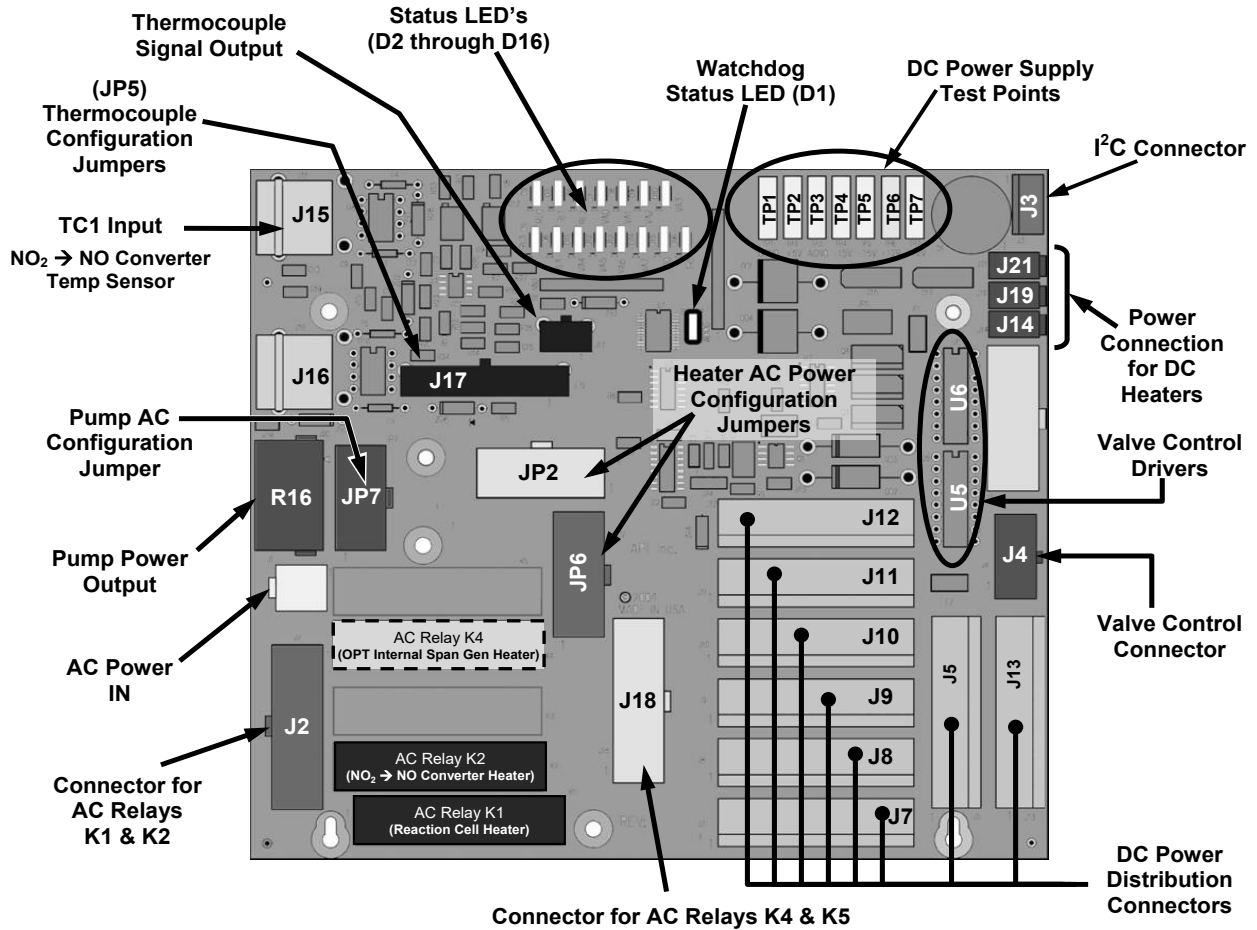

Figure 6-11. Relay PCA Layout (P/N 045230100)
The CPU issues commands via a series of relays and switches located on a separate printed circuit assembly, called the Relay PCA (Figure 6-11), to control the function of key electromechanical devices such as heaters and valves. The Relay PCA receives instructions in the form of digital signals over the I²C bus, interprets these digital instructions and activates its various switches and relays appropriately.
- TC2 (J16) is currently not used (see Figure 6-11 for location of J15 and J16).